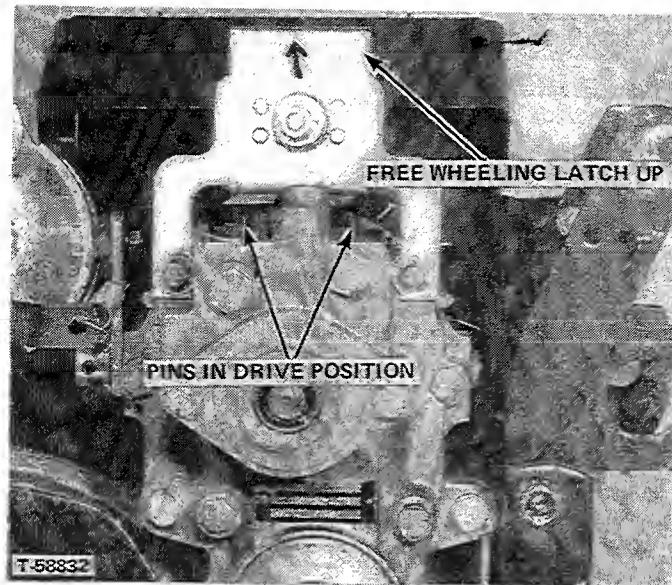

FIGURE 7 - (Seat, Deck and L.H. Wheel Removed)
The free wheeling latch is located on the top of the hydrostatic pump and motor unit. To move the tractor without engine power place the hydrostatic control lever in "neutral", stop engine, and push down on the free wheeling latch (Figure 6). To return the tractor to engine power pull up on the free wheeling latch (Figure 7). The pins depressed by the free wheeling latch will return to the "up" or "drive" position when the engine is again started.
1. Be sure free wheeling latch on hydrostatic pump is engaged, (Figure 7). With engine running set throttle control lever between 1/4 and 1/2 open.